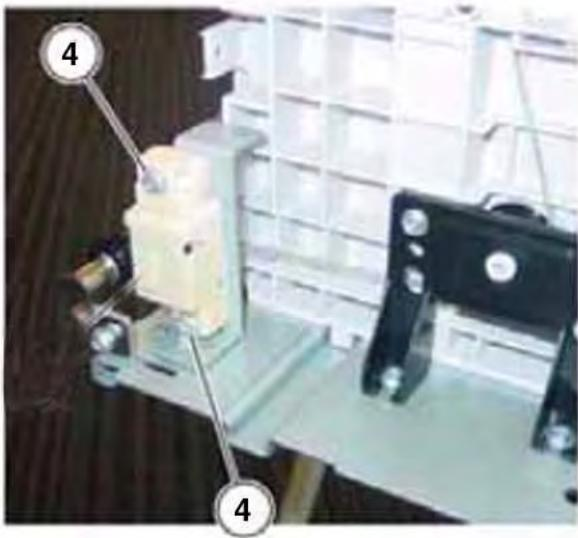

Figure 2 Brake Removal
4. Remove the Screws (2) and the Brake (Figure 2).